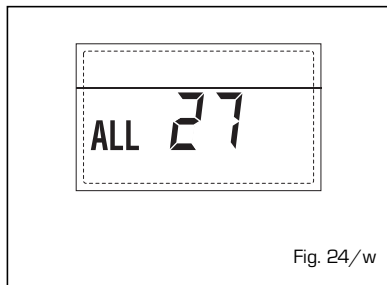

Fig. 24/w
- **COMPATIBILITY INPUT (S3) ANOMALY ONLY FOR SYSTEM 7 "ALL 28" (fig. 24/y)**